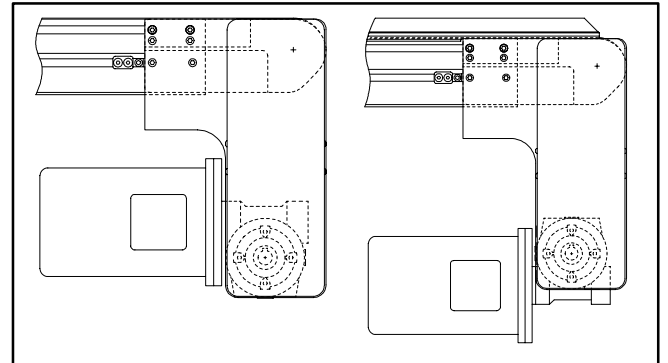

Figure 3
**NOTE:** Gearmotor position on Flat Belt conveyor shown below left, Figure 3. Gearmotor position on Cleated Belt conveyor shown below right, Figure 3.